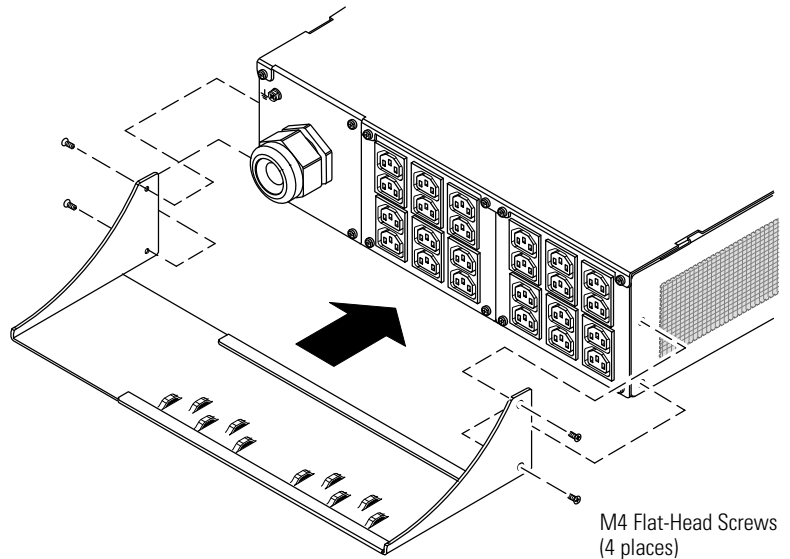

Figure 1. Installing the Cable Tray (Plug-Receptacle Unit Shown)
1. Align the cable tray with the screw holes on the sides of the RPM-3U/3Ui as shown in Figure 1.